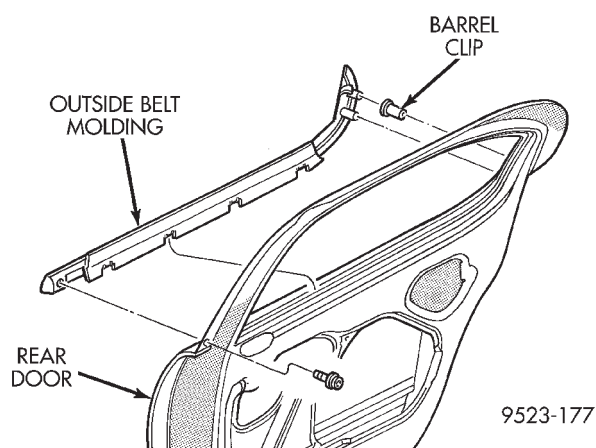
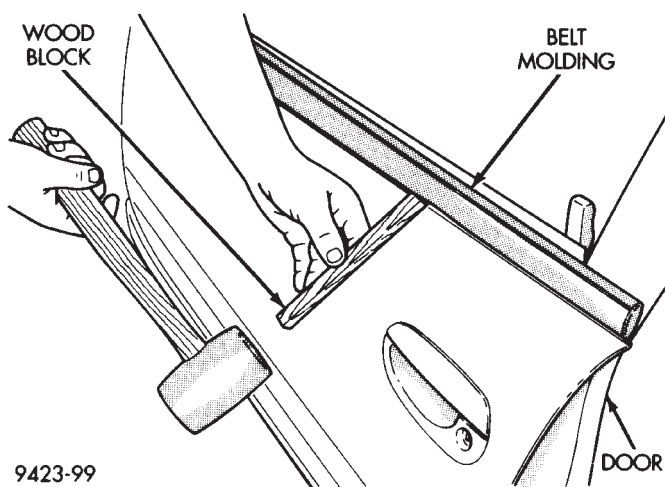

Fig. 37 Rear Door Outer Belt Molding
Fig. 38 Outer Belt Molding Removal
- (1) Remove screw holding forward end of molding to rear door (Fig. 37).
- (2) Disengage clips holding rearward end of belt molding to rear door.
- (3) Using a rubber mallet and block of wood, tap upward at each clip holding belt molding to door (Fig. 38).
- (4) Separate belt molding from door.